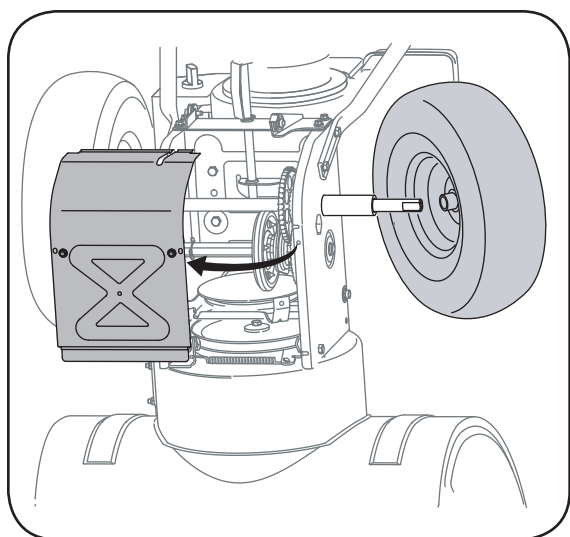

Figure 6-13
1. a. Remove the frame cover from the underside of the snow thrower by removing four self-tapping screws which secure it. See Figure 6-13.